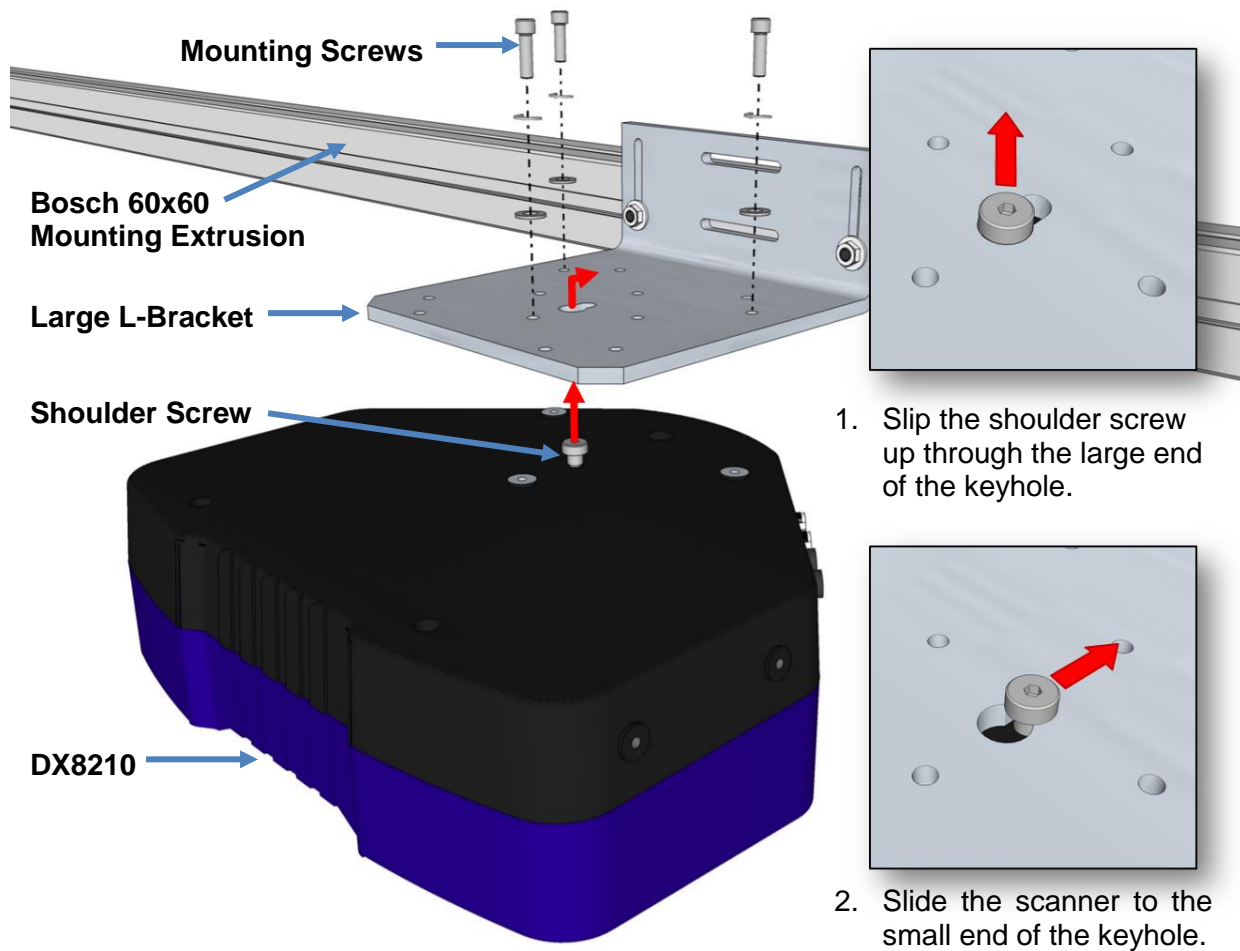

Figure 15: Keyhole mounting with large L-Bracket (Bosch 60x60 Extrusion)
- Shoulder screw (see *Figure 15: Keyhole mounting with large L-Bracket*)